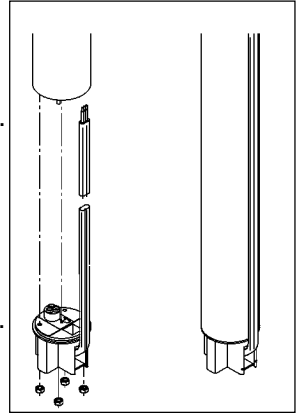

Fig. 6
4. Press the cable plug into the motor socket. The plug will only fit one way, see fig. 6.
5. Install and tighten the four nuts, see fig. 6.